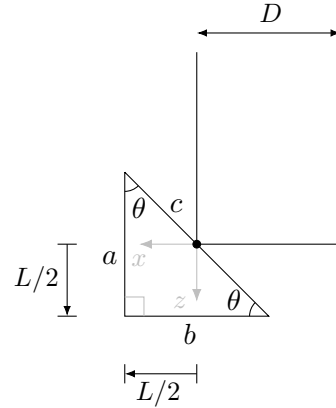

Figure 1: Initial relationship of work object and milling tool
As given, the right triangle shown in Figure 1 has sides $a = b = L$. Therefore $\triangle abc$ is an isosceles triangle.
1. Start by labeling Figure 1 with the values of D and L .